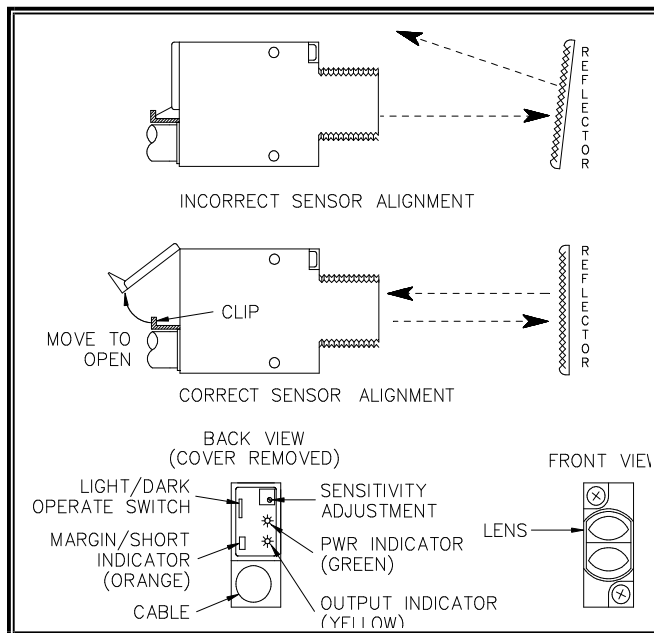

Figure 18 Allen Bradley
3. The rear cover window on the detector must be opened before any adjustments can be made. See *Figure 18*. Press the flexible retaining clip against the cable to open the window.